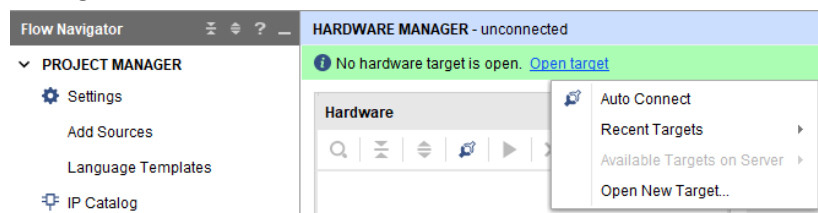

Figure 31 Hardware manager open target device
1. Simply click on “Generate Bitstream” under “Flow Navigator”. After the bitstream generation is completed successfully, click on “Open Hardware Manager” and then “Open Target” either from the popup dialog of Figure or from the “Flow Navigator” or from the top banner of the main window as seen in Figure 31. Press “Auto connect”.